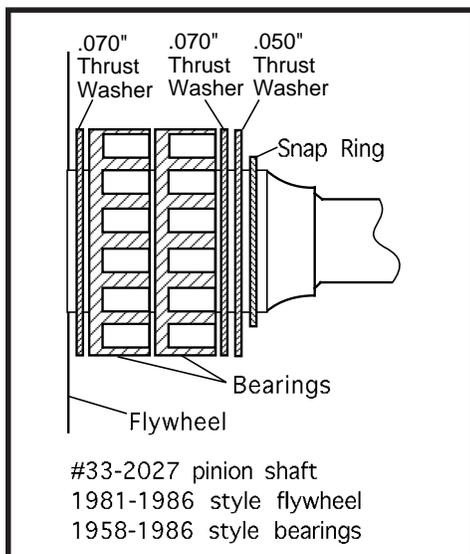

Figure 2
2. 1981- 1986 style stock flywheels and S&S pinion shaft #33-2027 - Two .070" thrust washers and one .050" thrust washers are normally used. Typical washer and bearing arrangement - .070" washer against flywheel, bearings, .070" washer, .070" or .050" washer, and snap ring. **See Figure 2.**